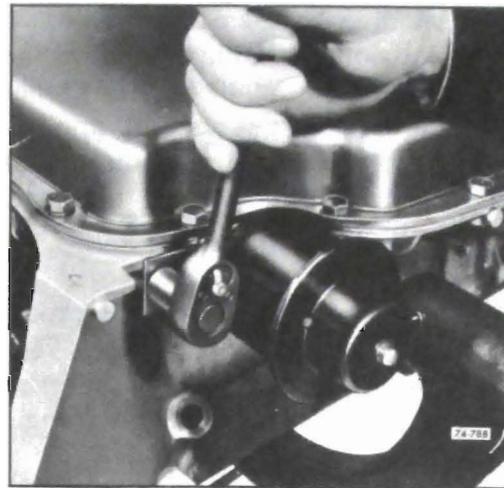

Figure 76-788
4. Install the modulator retainer and attaching bolt. Torque bolt to 15-20 lb.ft. See Figure 76-788.